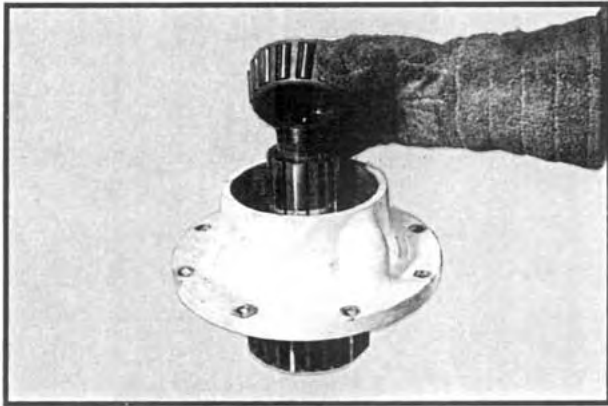

Fig 40
- Press the bearing cups into the carrier and place the carrier assembly into position. Heat and install the remaining bearing cone assembly. See Figure 40. Do not install the oil seal at this time. Slide the yoke (or companion flange) onto the shaft. Install and torque the locknut.